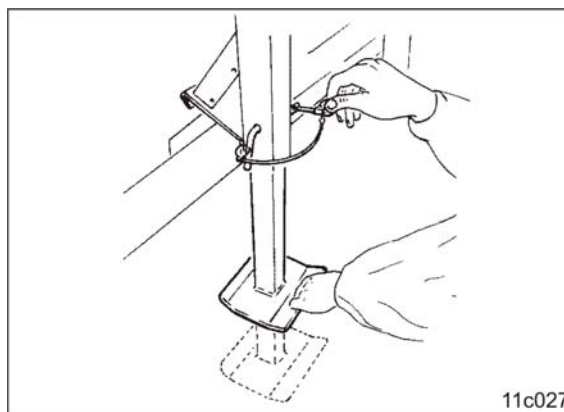

Fig. 36
13. Push the jack (Fig. 36) up and position it with the previously released pin, and then lock with a spring cotter pin.
1. Push the jack (Fig. 36) down and position it with the previously released pin, and then lock with a spring cotter pin.